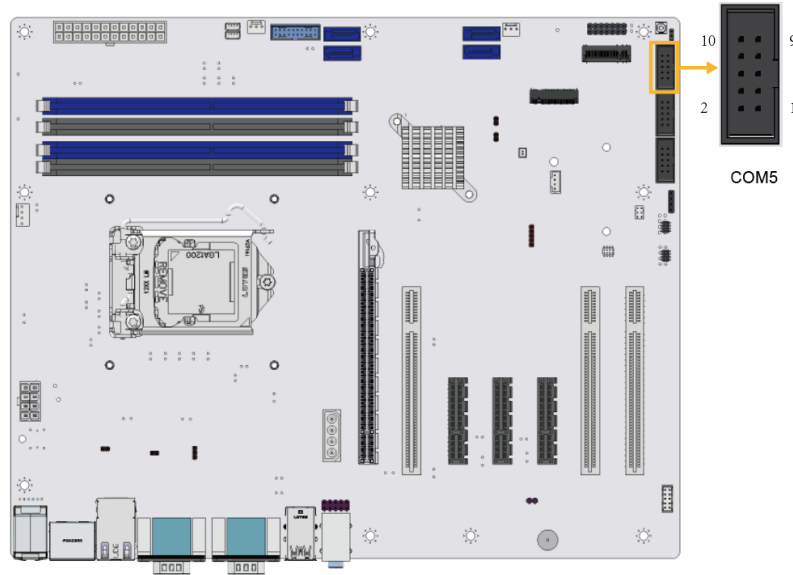

Figure 3-31: RS-232/422/485 Connector Location
- CN Location:** See **Figure 3-31**